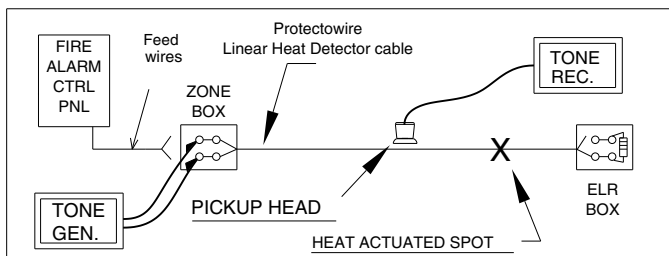

FIGURE 3 CLASS B DET. CKT. W/GEN. CONNECTED.
- 4.02 If detection (initiating) circuit is a two wire Class B (NFPA Style A or B) disconnect the detection circuit feed wires in the Zone Box and at least one wire at the ELR Box. (See figure 3)
- 4.03 Connect the alligator clip leads of the Tone Generator to the Protectowire side of detection circuit as shown in figure 3 & 4.